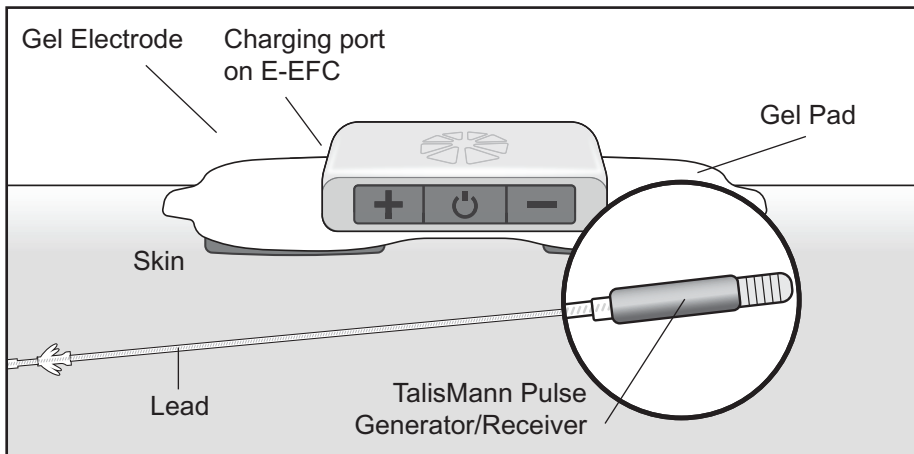

Figure 6-5: Correct stimulation position. (Illustration not to scale.)
- There are two gel pads underneath the plus and minus buttons of the stimulator. The gel pad underneath the minus button should be placed on the skin above the TalisMann Pulse Generator and Receiver. See Figure 6-5.